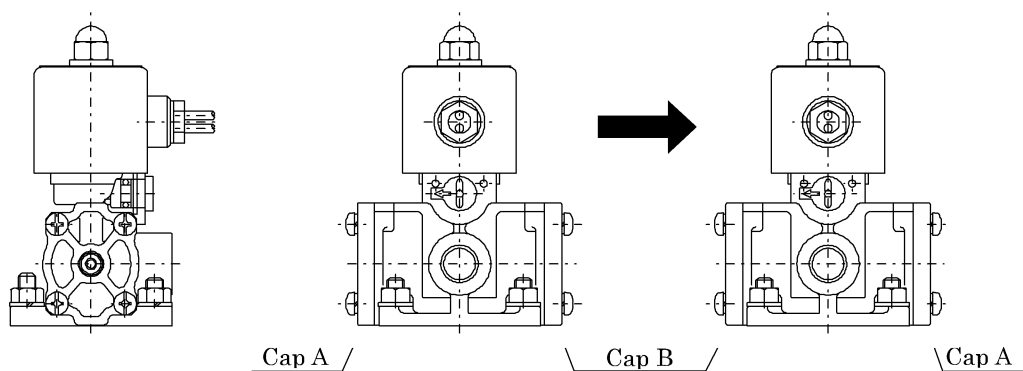

Fig.3
- (1) Shift the locations of caps "A" and "B" mounted on both ends of valve with pan head machine screws, as per illustrated from Fig. 3 to Fig. 4.
- (2) Be sure to place the marking of "SOL→" according to flow direction.
- (3) Apply evenly spread torque to tighten pan head machine screws.